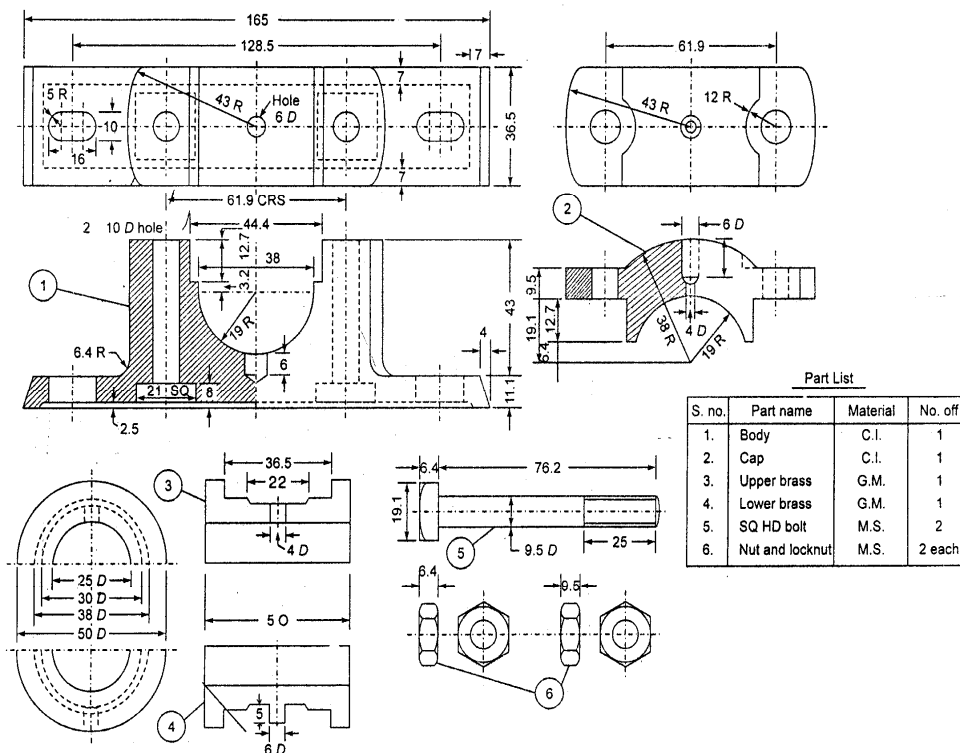

Fig. 1 Details of plummer block
4. Draw the following views at assembly of eccentric mechanism as shown in Figure 1. (48M)
4. Figure 1 gives the part drawings of Plummer block. Assemble all the parts and draw the following assembled views. (48M)